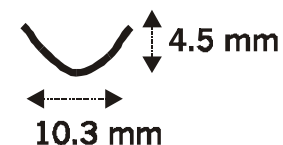

Fig. 6.8B
- b. After annealing, **change to a 6 mm dap punch.** Place the disc back into die impression #4 (Fig. 6.8A). Punch one firm tap straight down on the center mark or bead hole. This action is taken to reestablish the disc center, to slightly pull the diameter inward, and to partially harden the bead hole to prevent the annealed metal from stretching at the hole (Fig. 6.8B).